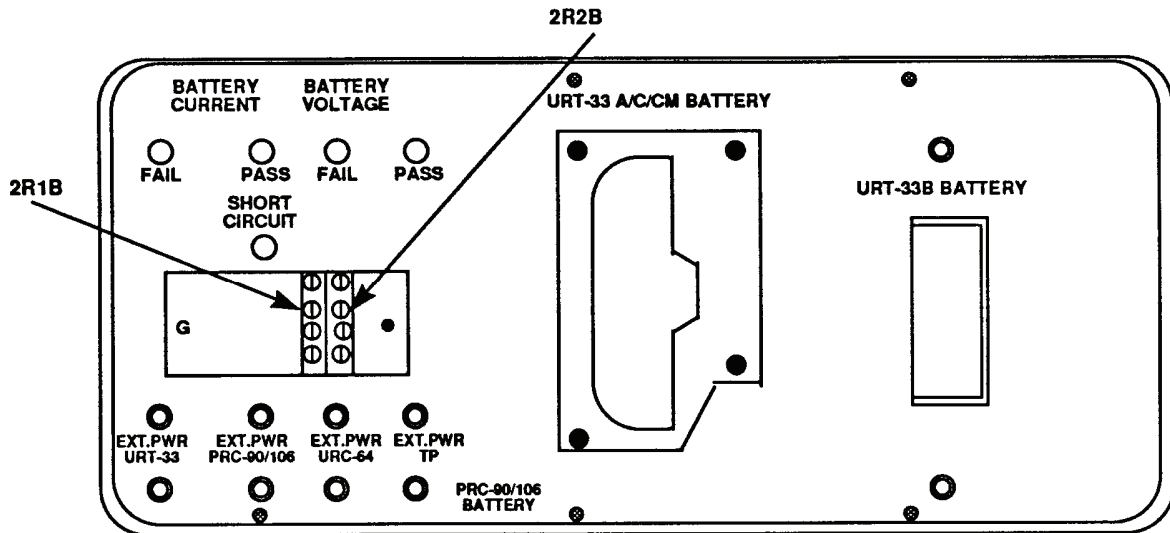

Figure 1. Dc module adjustment.
- (1) Close and latch TI test chamber cover. Remove any batteries from PRC-90/106 battery chamber.
- (2) Connect dc power supply to **EXT. PWR PRC-90/106** (fig. 1) test points.
(1) Adjust 2R2B (fig. 1) so both the **BATTERY VOLTAGE** red **FAIL** and the green **PASS** indicators flicker randomly (R).
(2) Adjust 2R1B (fig. 1) so both the **BATTERY CURRENT** red **FAIL** and the green **PASS** indicators flicker randomly (R).